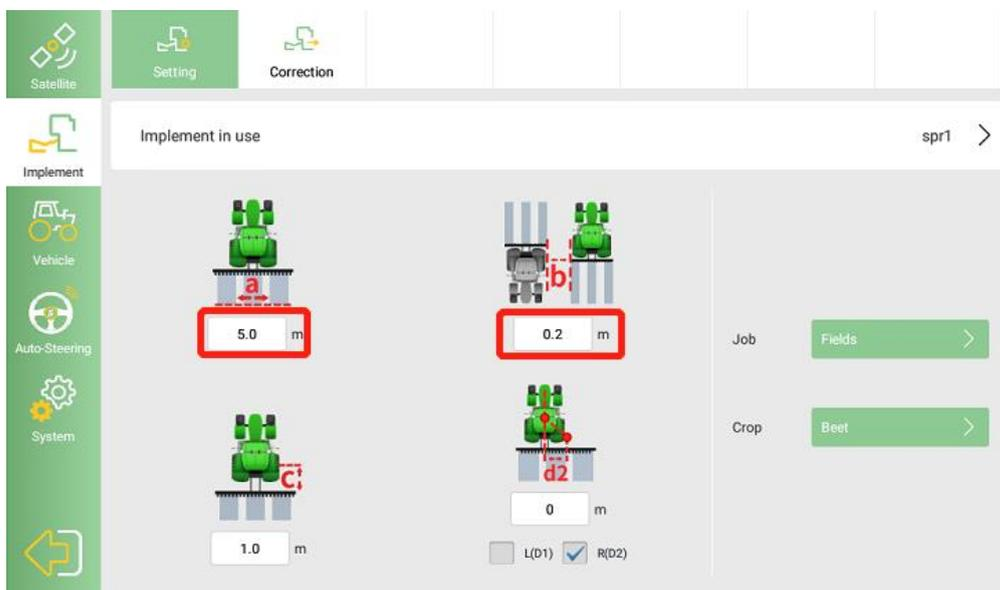

Fig 2.2.30 Implement Setup
2. Move: Click to shift your current AB line according to Fig 2.2.30 your requirements, as shown below.